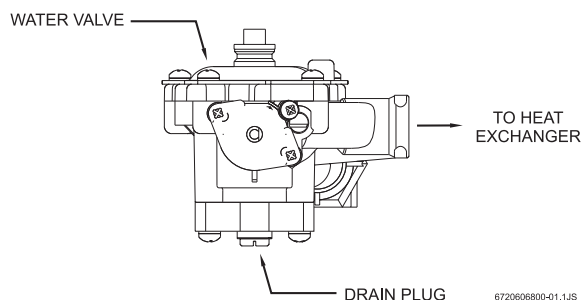

Fig. 1 - Water heater drain plug
**WARNING: DO NOT INSTALL IN AN AREA WHERE IT COULD FREEZE. This heater is neither designed for nor approved for outside installation.** Drain the heater entirely if freezing temperatures are anticipated in area where heater is installed by disconnecting both the inlet and outlet water connections from the heater (disconnect the outlet flex line from where it connects to the copper heat exchanger). Additionally, remove the drain plug under the water valve. See Fig 1.